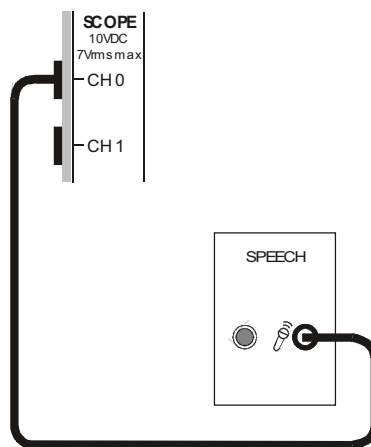

Figure 3
12. Connect the set-up shown in Figure 3 below.